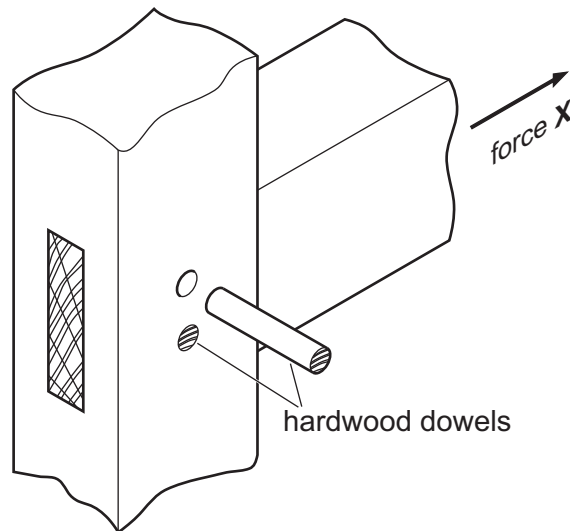

Fig. 10.3
- (ii) Fig. 10.3 shows a method of providing a right-angled joint in the framework of a timber building. Hardwood dowels are used to secure the joint.